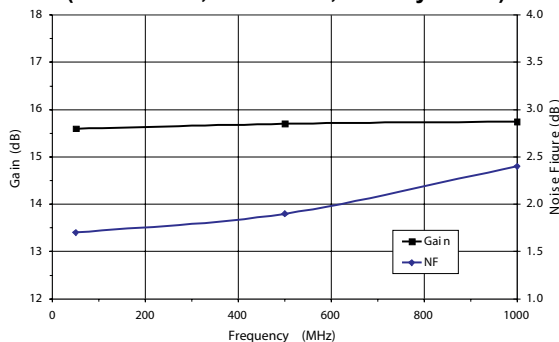

Figure 7: Gain and Noise Figure vs. Supply Voltage - S3 Package Device
(1) 160 channels, +17 dBmV per channel (measured at output), 6 MHz channel spacing.
(2) 80 channels, +19 dBmV per channel (measured at output), 6 MHz channel spacing.
(3) Two tones, -39 dBmV per tone at input.
(4) The device can be operated at V_{DD} = +6 VDC for lower power dissipation. Refer to Figures 7, 8, 13, and 16 for performance variation with supply voltage.